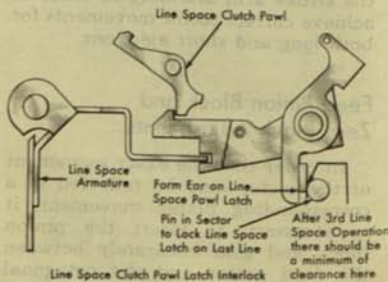

Figure 25
A *final* zero block check and adjustment is to be made later in the procedure after the pinion block and gear have been properly inserted on the feed shaft. See Figure 25 under Eject Mechanism Adjustments.
sector pin locks the latch in an inoperative position after 3 line spaces (Figure 25). Care should be exercised so as not to destroy the line space armature adjustment, when forming ear.
10. At this time the line space mechanism mechanical interlock adjustment should be rechecked (Figure 25).